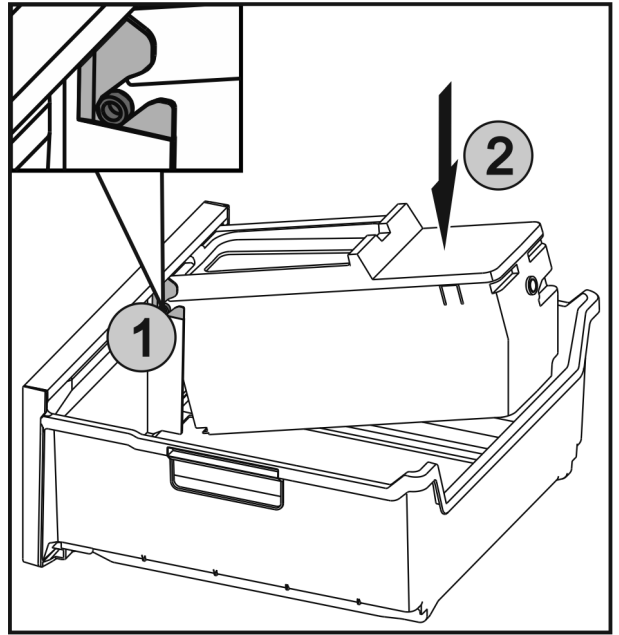

Fig. 57
- ▶ Insert the axles Fig. 57 (1) on the EasyTwist-Ice in the guides and push the rear side Fig. 57 (2) until the lug engages.